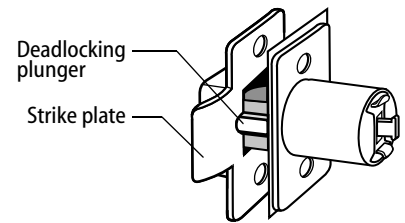

Figure 15
**Caution:** The deadlocking plunger of the latchbolt must make contact with the strike plate, as shown in Figure 15. The plunger deadlocks the latchbolt and prevents someone from forcing the latch open when the door is closed.